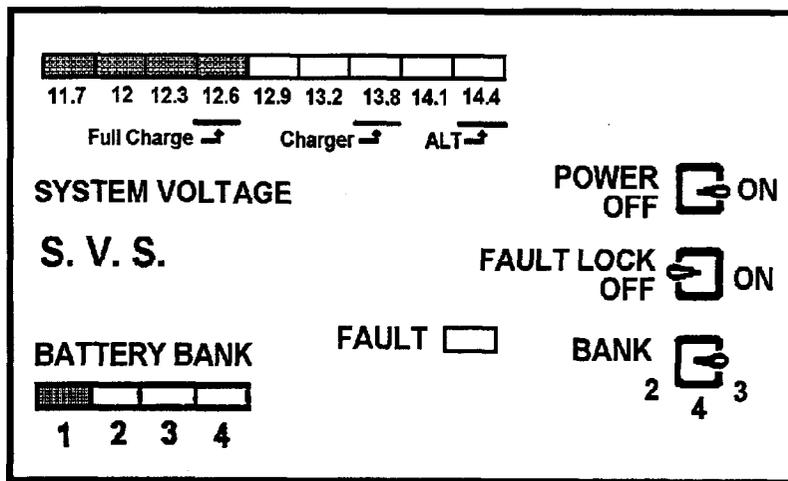

Figure 3-6. System Voltage Scanner
3. Using the SYSTEM VOLTAGE SCANNER feature of the Electrical Switchboard, see Fig 3-6.